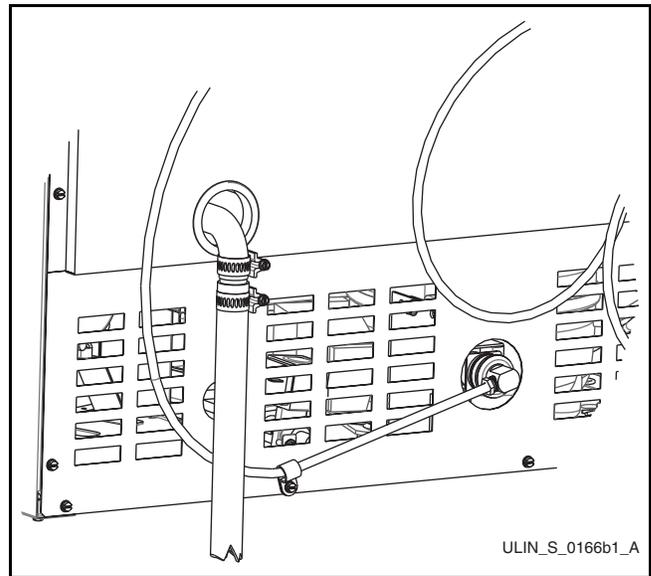

Figure 41
3. Attach the copper water line to the back of the unit using the supplied clamp and the back panel screw (see **Figure 41**, CLR2175 model shown). This will prevent rotation of the line when moving the unit.